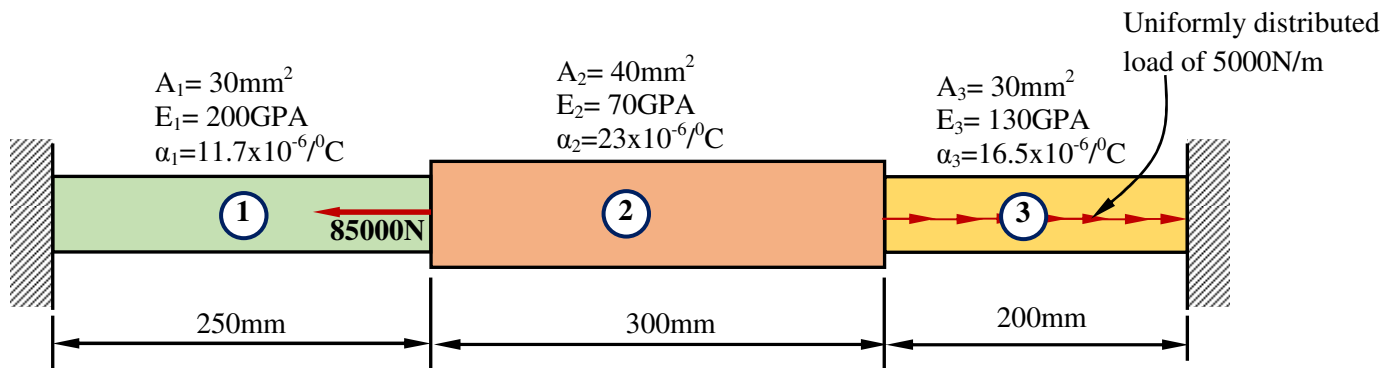

Fig. 2
4. a) Consider the bar shown in **Fig. 2**. An axial load of 85000N at 6M element 2, and a uniformly distributed load of 5000N/m are acting at element 3. The temperature of all the elements are increased by 40°C. Calculate the assembled stiffness matrix and load vector.
Determine the nodal displacements and reaction forces at the supports of the bar shown in **Fig 2**